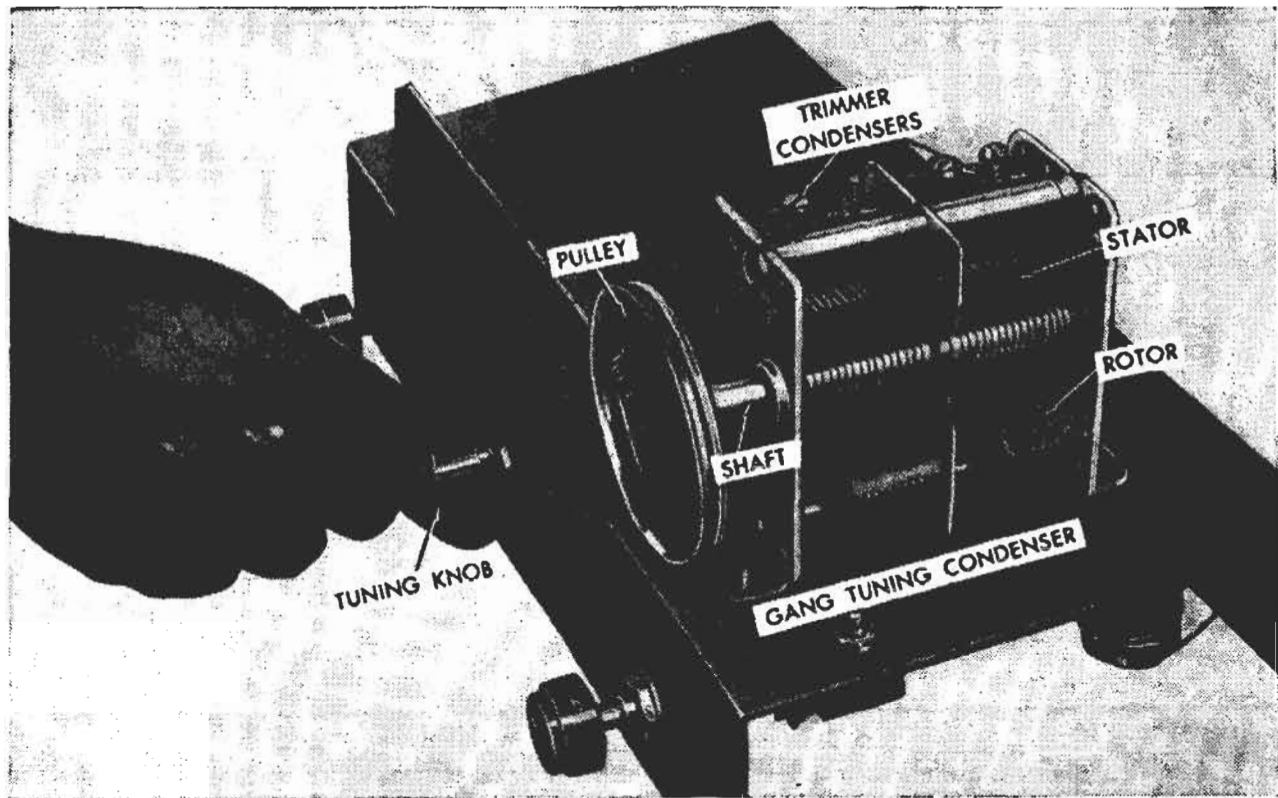

FIG. 12. View of the gang tuning condenser in our superheterodyne receiver, with important parts identified.
In Fig. 12 is a clear illustration of another highly important large part in our superheterodyne receiver, the *gang tuning condenser*. It has two sections, which work with the two r.f. coils located underneath the chassis. A tuning condenser is never used by itself; it is always used with a coil, and *tunes* the coil to a particular frequency. You will find this interesting situation many, many times in radio—different parts acting together to produce special results which the parts could not give separately.
**Rotor and Stator.** Each section of our gang tuning condenser in Fig. 12 has two important parts:
**Dial Cord.** The tuning control knob in our superheterodyne receiver is quite some distance from the gang tuning condenser shaft, as you have probably noticed already in Fig. 12. Now, what makes the tuning condenser shaft rotate when we turn the tuning control knob? Also, what makes the dial pointer move to the correct dial number for the station whose program is coming from the loudspeaker?